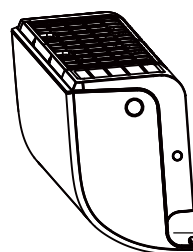

Fig. 4.9
2. If the wall hole is behind the unit, keep the knock-out panel in place. If the wall hole is to the side of the indoor unit, remove the plastic knock-out panel from that side of the unit. (See **Fig. 4.9**). This will create a slot through which your piping can exit the unit. Use needle nose pliers if the plastic panel is too difficult to remove by hand.